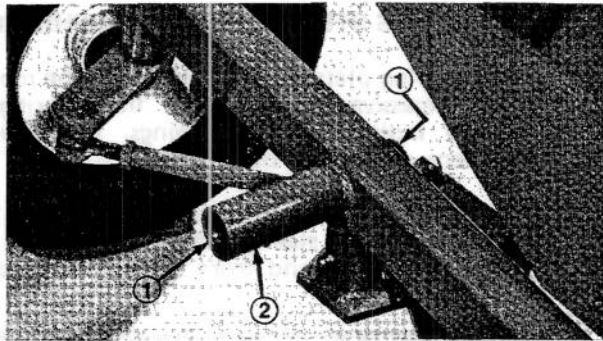

Figure 53
6. Using pin punch and hammer, drive both bushings out of axle (Fig. 53). Clean inside of axle to remove dirt and foreign matter.
bottom of the axle pivot tube. Bushings must be flush with axle tube (Fig. 53).